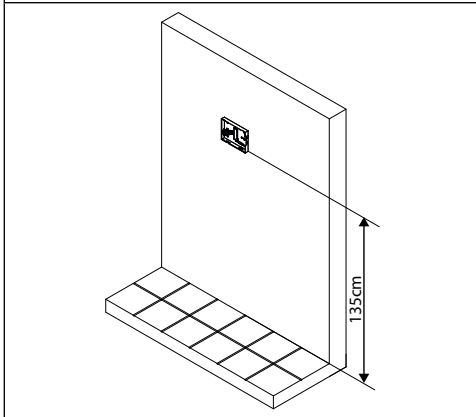

Fig. 4
1. Protect the holes to fix the videophone to the flush mounting box then embed the flush mounting box in line with the wall **in a horizontal position** at 135cm height from the floor as shown in Fig. 4;